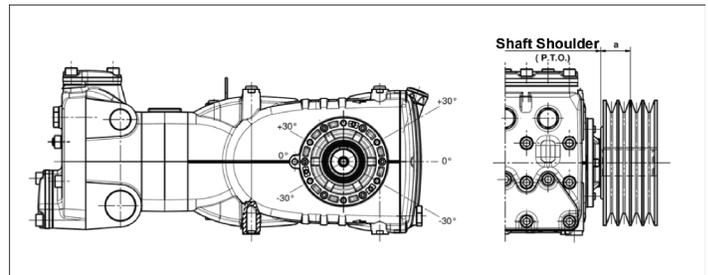

fig. 10
The pump may be driven by a v-belt system. For this pump model, we suggest to use 4 XPB belts (16.5 x 13 cogged); only for long durations, use the XPC profile; both the characteristics and the power transmission capacity of each belt can be verified on the diagram in fig. 7, in function of the number of rotations normally declared by the Manufacturer. Minimum diameter of the driven pulley (on the pump shaft): ≥ 250 mm. The radial load on the shaft must not be greater than 7500 N (value required for the definition of the layout). The transmission is considered adequate if this load is applied at a maximum distance of $a=40$ mm from the shaft shoulder (PTO) as indicated in fig. 10
b) Use high efficiency belts - for example **XPB instead of SPB**; this will allow to use a lower number of belts to transmit the same power, and consequently a minor distance of the resultant from the shaft shoulder (PTO) "a" in fig. 10.